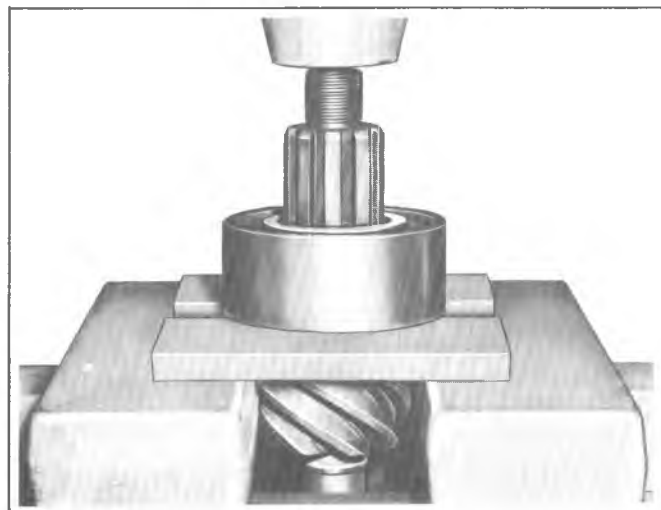

Fig. 3G--Drive Pinion Front Bearing Removal
6. Position drive pinion in an arbor press so that the bearing is supported by two pieces of flat steel stock as shown in figure 3G. Place flat stock parallel to each other and against pinion so as to pick up a large area of bearing outer race. Press pinion from bearing making sure pinion is supported to prevent damage when removed from bearing.